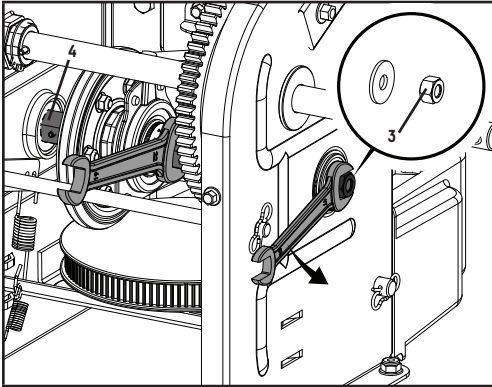

Figure 49
- Carefully remove the M10 hex nut (3) which secures the hex shaft (4) to the snowblower frame and lightly tap the shaft's end to dislodge the ball bearing from the right side of the frame (Fig. 49).